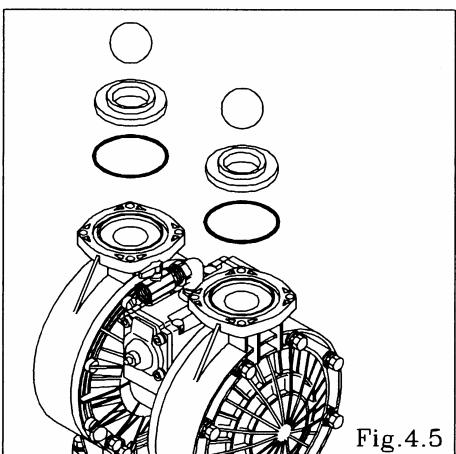

Fig.4.5
- Remove the ball, valve seat and O ring. [Fig.4.5]